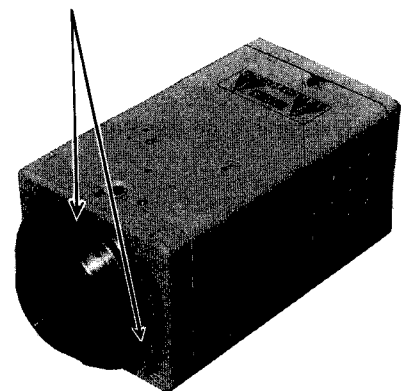

Fig. 5-3
- Referring to Fig. 5-3, loosen two screws that secure the Flangeback Adjusting Ring.